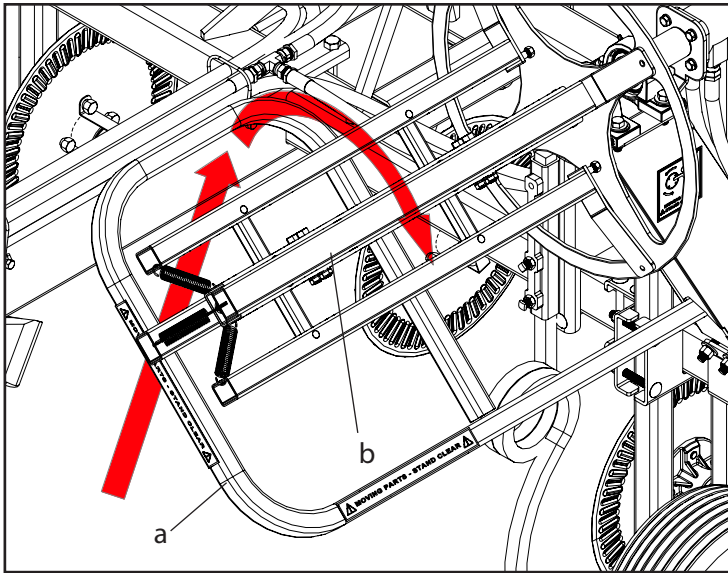

Figure 8: Preparing for wrapping
- Lift the end of the plastic and thread it through the plastic guide (a) and wrap it around the reel (b) as shown (Figure 8).
- When the reels are spinning at the proper speed, the plastic should not touch the plastic guide (a, Figure 8).